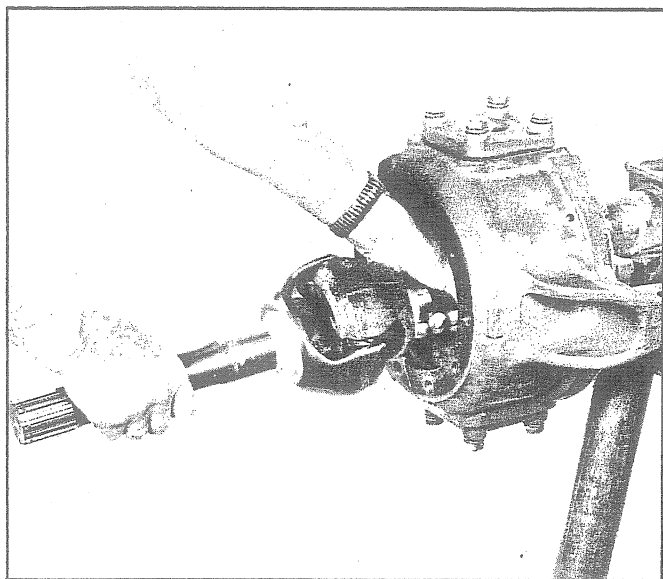

Fig. 84 - Removing Axle Shaft
13. Carefully slide universal joint and axle shaft assembly out of the housing as shown in Fig. 84. The universal joint will separate if the axle shafts are not kept in alignment with each other.